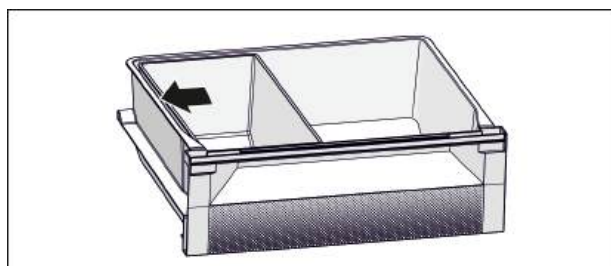

Fig. 6
- For an optimum cooling function: Position Fish & Seafood tray according to illustration (see Fig. 6) .